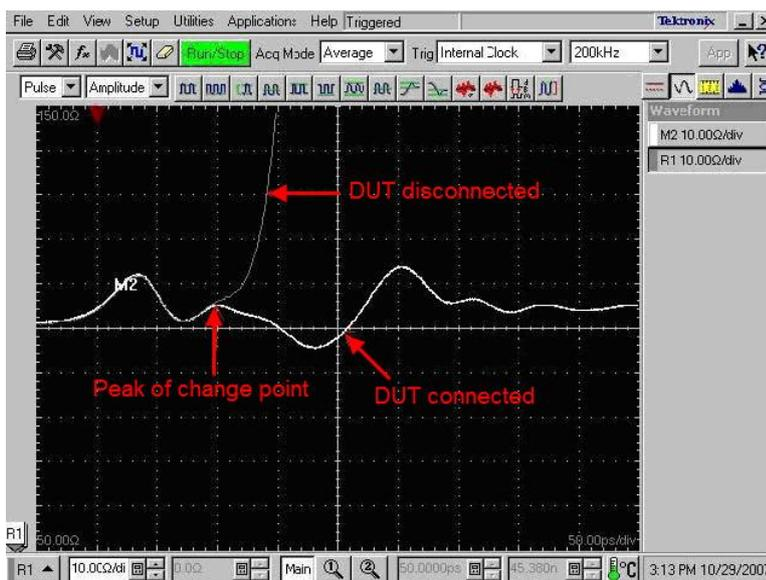

Figure 18 Adjust Horizontal Position
6. Adjust the **HORIZONTAL POSITION** knob so that a **M2** (unfiltered impedance) waveform peak of change point becomes 3 divisions from left (see Figure 18.).